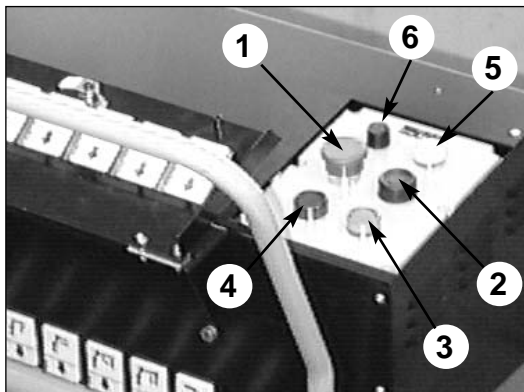

fig. 12
**Layout of the control panel positioned on the top seat next to the distributor** (fig.12).